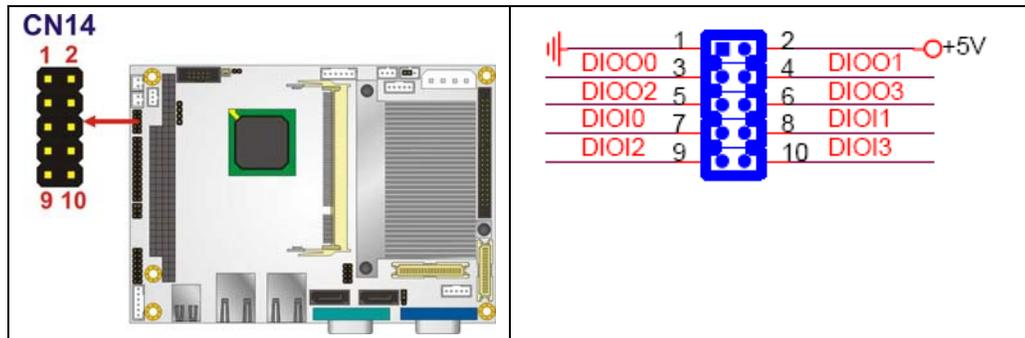

Figure 4-12: GPIO Connector Pinout Locations
- CN Location:** See **Figure 4-12**